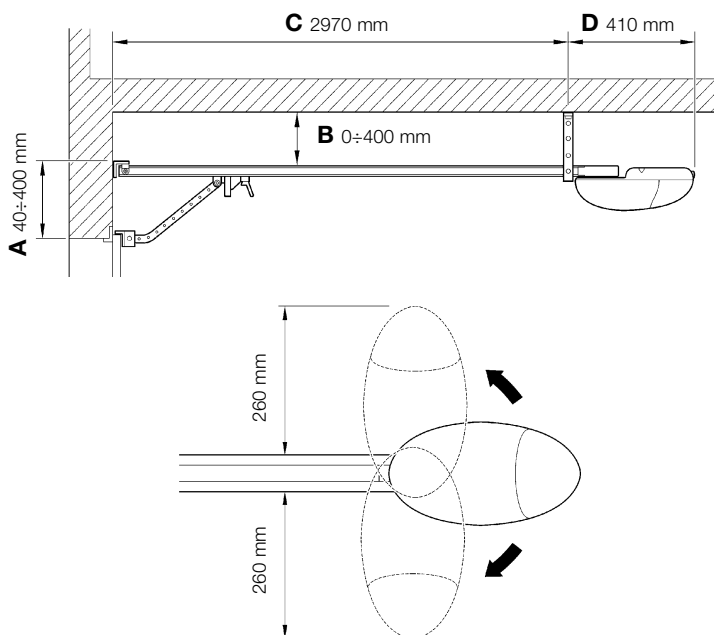
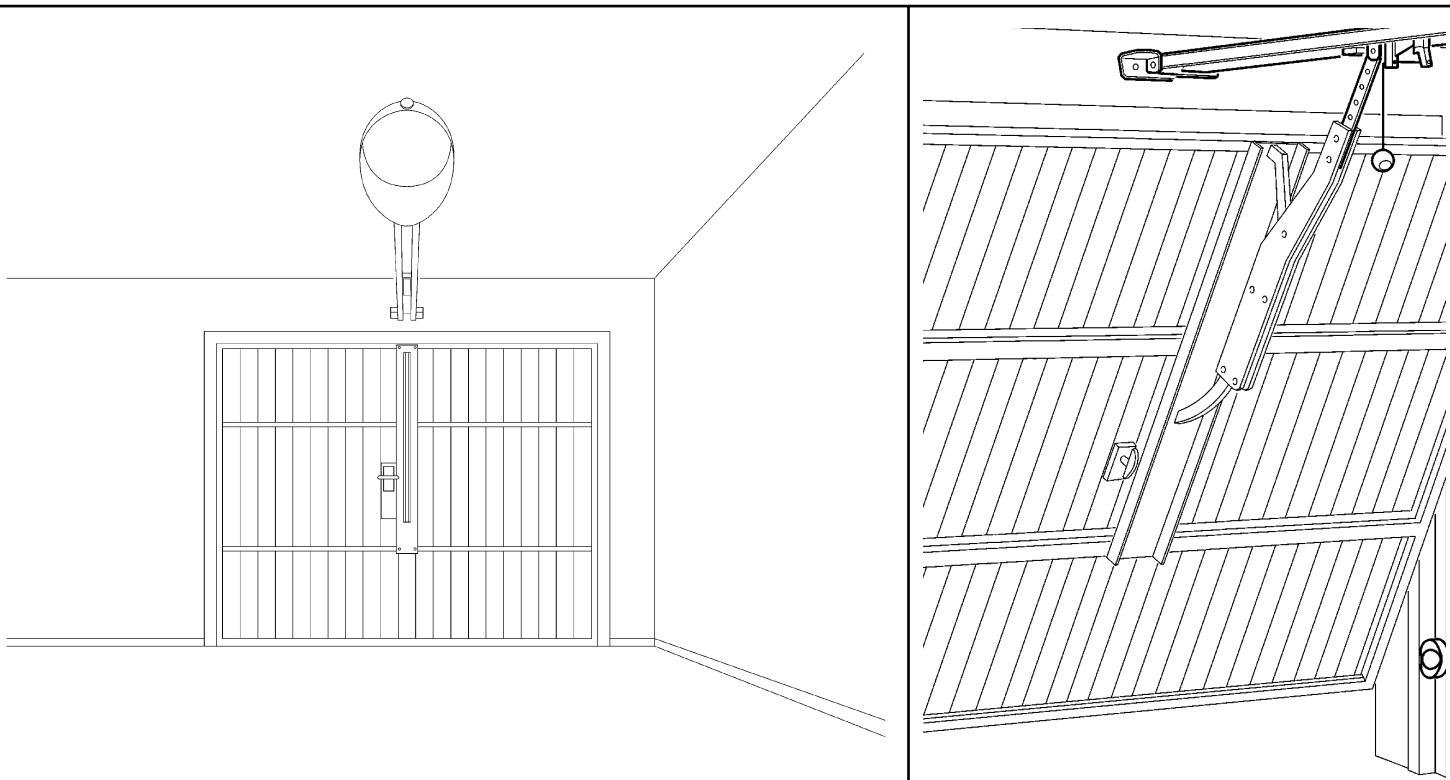
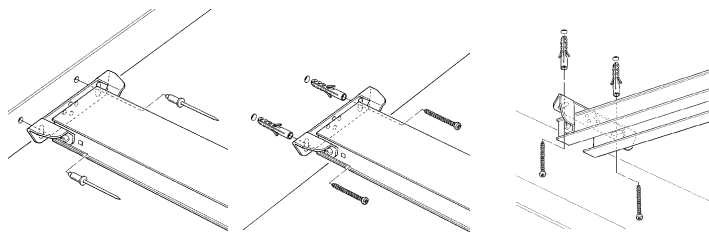

Figure 8
Figure 11
Figure 26
- Make sure that the minimum and maximum clearances specified in fig. 8 are observed.
• The gearmotor should be mounted so that it coincides with the centre of the door, or is slightly off-centre, e.g. in order to mount the OSCILLATING ARM next to the handle (Figure 11).
If the door to be automated is an overhead type with springs or counterweights, it will be necessary to install an OSCILLATING ARM, which must be mounted next to the handle (Figure 11).
**1** Observing the A, B and C positions shown in Figure 8, mark the 2 fastening points for the guide's front bracket in the centre of the garage door (or slightly off-centre – Figure 11).
Depending on the type of material, the front bracket can be fastened using rivets, anchors or screws (Figure 26). If positions A, B, and C (figure 8) allow it, the bracket can be fastened directly to the ceiling.